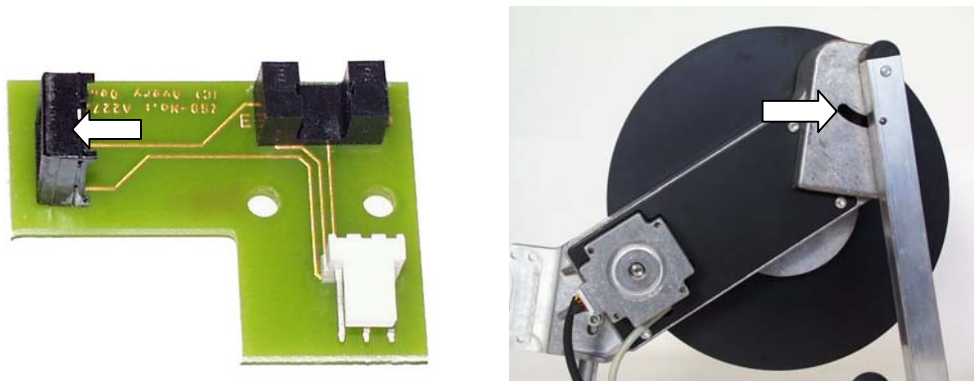

Fig. 3: Left side: Pot. (arrows) on the light sensor board; Right side: Use the slot in the housing to set the pot. from outside.
If the difference between the two end points is not big enough, use the potentiometer on the rewinders light sensor board (Fig. 3:) to set the current through the sensor. To do so, proceed as follows:
1. Turn the potentiometer at the rewinder (Fig. 3:, arrows) clockwise to its limit.